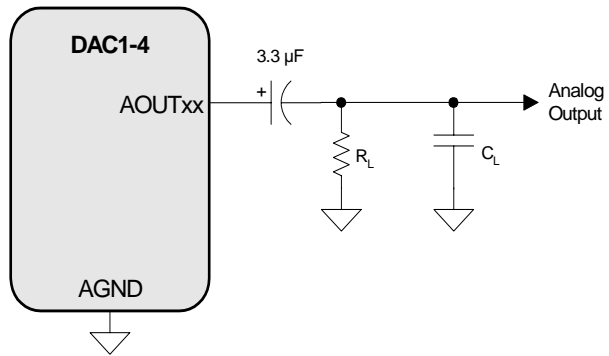

Figure 2. Output Test Circuit for Maximum Load
12. Guaranteed by design. See Figure 2. R_L and C_L reflect the recommended minimum resistance and maximum capacitance required for the internal op-amp's stability and signal integrity. In this circuit topology, C_L will effectively move the dominant pole of the two-pole amp in the output stage. Increasing this value beyond the recommended 100 pF can cause the internal op-amp to become unstable. See "External Filters" on page 51 for a recommended output filter.